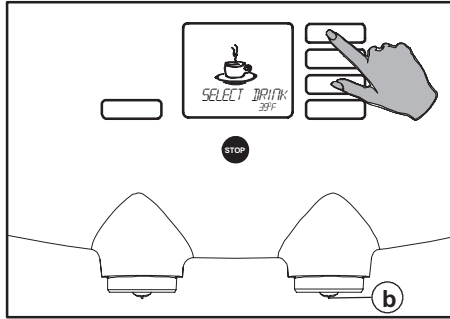

Fig. 13 Select the desired drink
2. Press one of the right-hand selection buttons (fig. 13). (Not on the pot button, if present).
- Now the dispenser dispenses the drink from the right-hand outlet (fig. 13 b) and stops automatically after one cup has been dispensed.